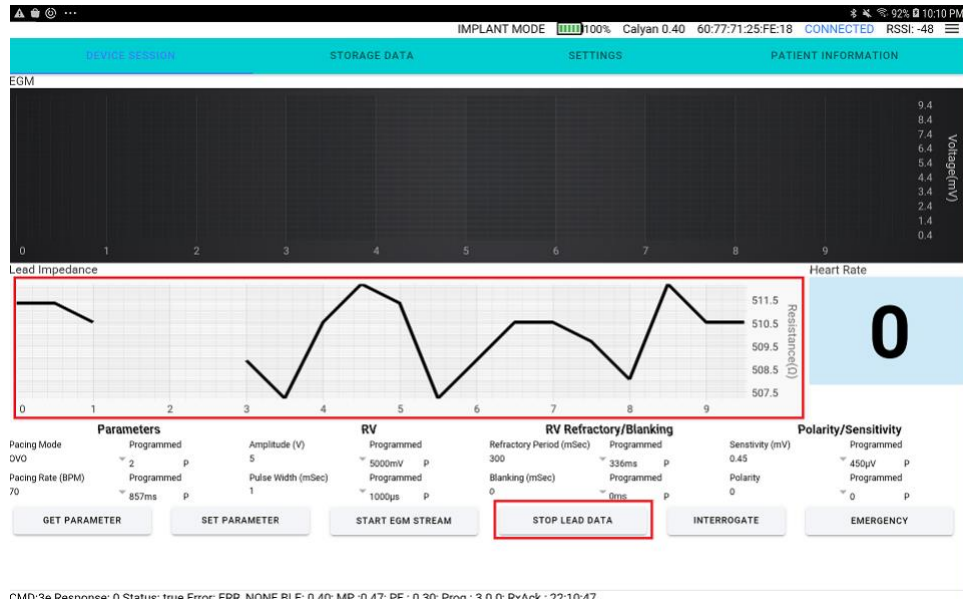

Figure 22: Lead Impedance Streaming
2. The Lead Impedance will be streamed under the “Lead Impedance” section of the “DEVICE SESSION” screen (Figure 22).